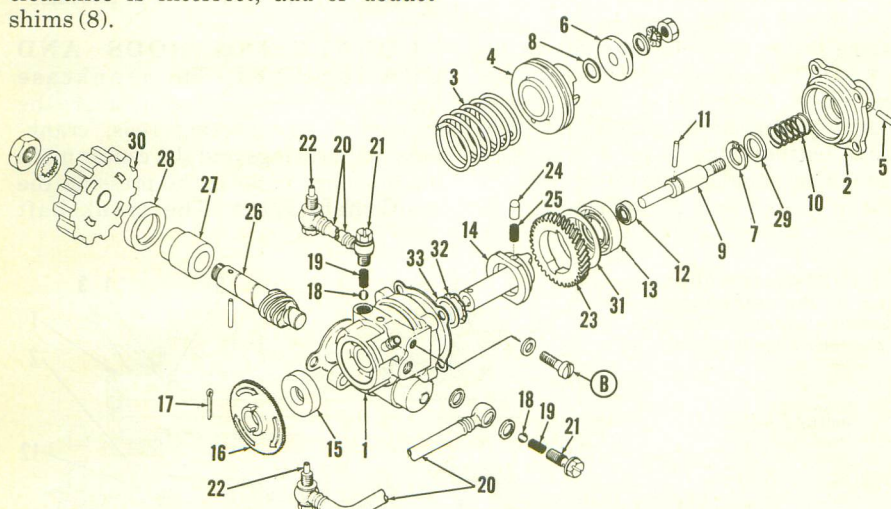

Fig. Y5-6—Exploded view of the oil injection pump unit. Bleeder screw is shown at (B).
If oil lines are drained or pump is removed, it is important that all lines be filled before starting engine. Remove bleeder screw (B—Fig. Y5-5) and pull the control cable up out of cable guide (3). Turn starter plate (16) until oil without air bubbles flows from the bleeder screw hole, then reinstall bleeder screw (B) and start engine. Run engine at idle speed until oil delivery lines (20—Fig. Y5-6) are free of air bubbles.